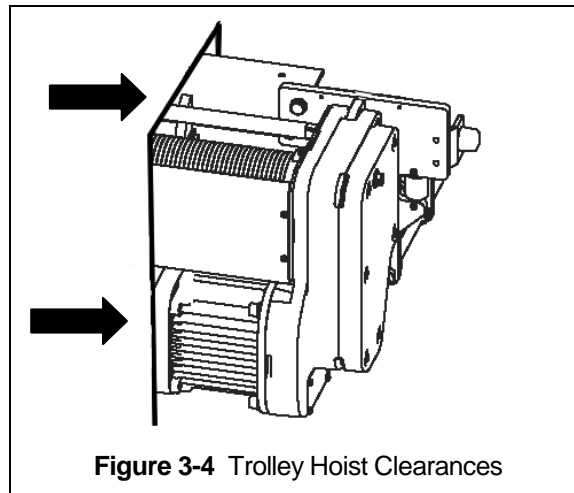

Figure 3-4 Trolley Hoist Clearances
3.3.4 Ensure that there is adequate vertical and horizontal clearance along the entire range of the trolley hoist’s motion as shown in **Figure 3-4**.